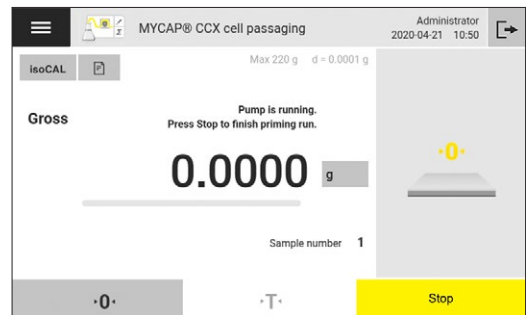

Figure 22: Y connector and screen to stop priming run. The stop button is highlighted yellow
5. Stop the priming on Cubis® II MCA Balance touchscreen (see Figure 22) when culture has reached to the bottom of the dip tube (see Figure 30). The priming step may be repeated by following prompts on Cubis® II MCA touchscreen